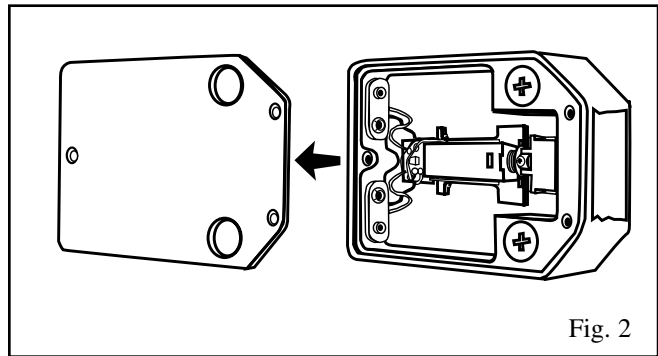

Fig. 2
3. Remove plate. See Fig. 2.
4. Carefully connect (2) 9-volt batteries to receptacles as